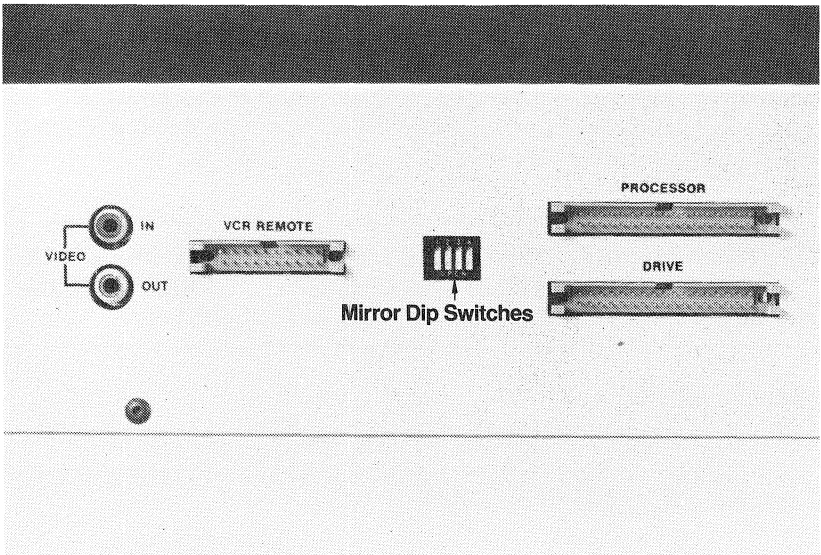

FIGURE 2.4 5 MEGABYTE DRIVE BACK PANEL
A Corvus 5 megabyte drive has four (4) microswitches which are used to set up the self contained Mirror (see figure 2.4). If the drive does not have a self-contained Mirror, all four switches are placed in the closed position.
On the bottom left side of the back panel of 10 and 20 megabyte drives and on the top right side of the back panel of 5 megabyte drives, there are two video connectors (see figures 2.4 and 2.5). They are used to connect a video tape recorder if you have a self-contained Mirror connected to your system.
Near the bottom center of the drive cabinet back panel of 10 and 20 megabyte drives, there are two flat cable connectors (see figures 2.4 and 2.5). The top one, labeled Processor, connects to the flat cable leading to your interface card, multiplexer, or disk server. The lower one, labeled Drive, connects to the flat cable leading to an add-on Corvus drive (if you have an add-on drive).
To the bottom right of the back panel on all drive models, there is the ac cord connector and fuse (see figures 2.4 and 2.5). You have a voltage option of 110V, 120v, 220v or 240v.